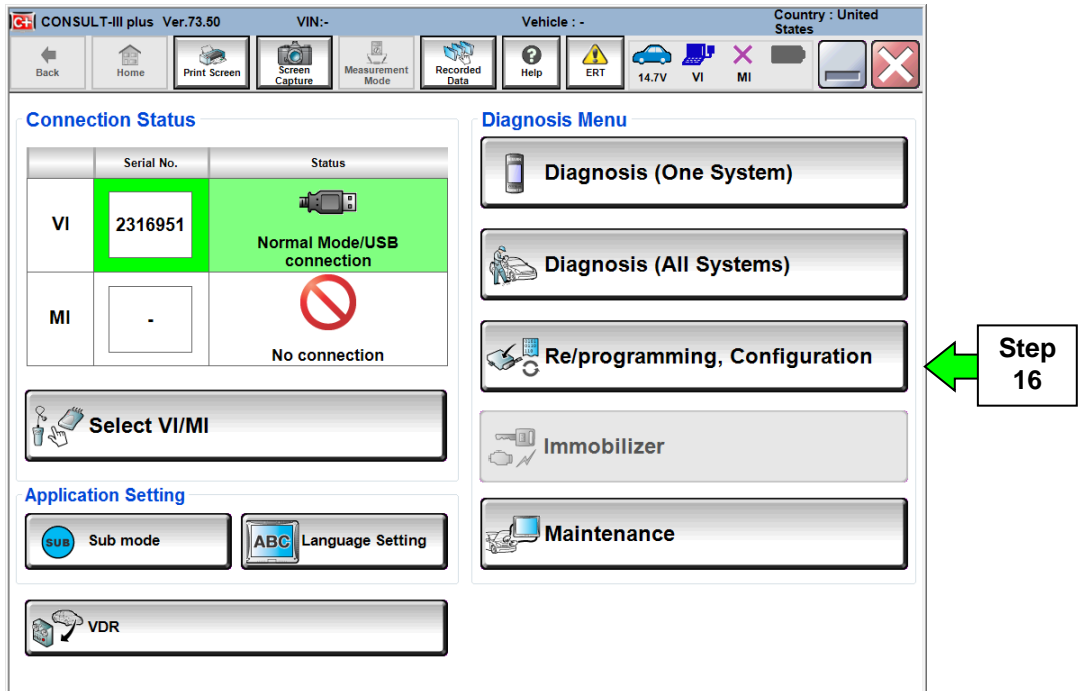

Figure 8
15. Select **Yes** to complete system call. Once the system call is complete the screen shown in Figure 8 will be displayed.